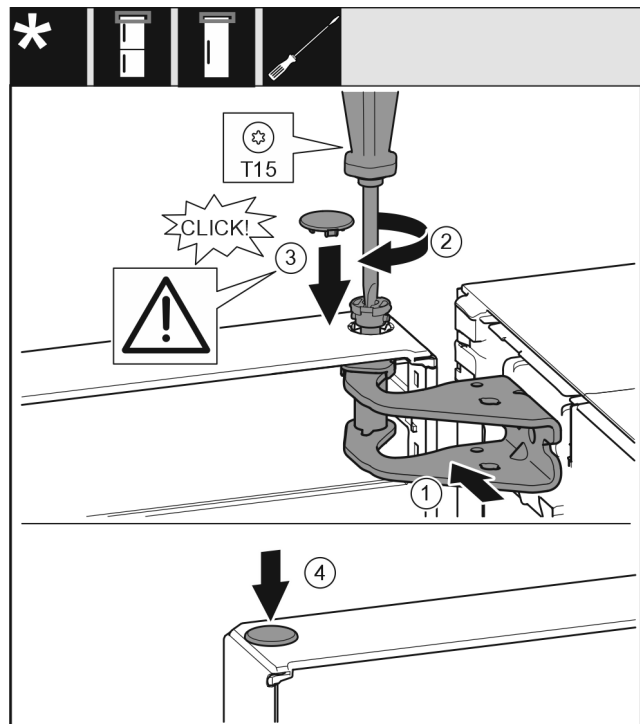

Fig. 22
- ▶ Align the top door with the opening in the swap bearing block Fig. 22 (1).
- ▶ Insert the bolt Fig. 22 (2) and use screwdriver to tighten it.
- ▶ Insert the cover Fig. 22 (3).
- ▶ Check that the cover Fig. 22 (3) is resting on the door.
- ▶ Insert the cover Fig. 22 (4).